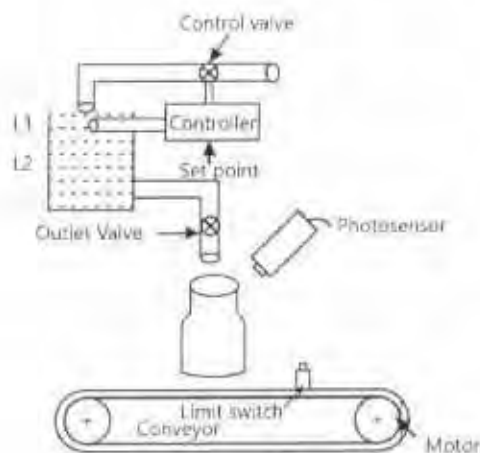

Figure 1
- Q4 a. A process control system illustrated in figure 1 is desired to fill the bottle and convey this. The outlet valve is opened to fill the bottle as when the limit switch senses the presence of bottle and is closed automatically when the photo sensor produces the signal as when the bottle is filled. The level of water in tank is maintained through a control valve. Develop a PLC ladder logic diagram for this control application. 10